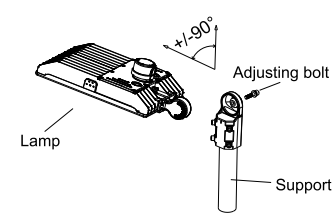

Figure 13
**1. ADJUSTABLE FITTER MOUNTING (AM)**
Step 1: Connect the wire correctly and put the wire into pole. Then fasten the locking bolts between slip fitter and the pole. (Figure 13)
Step 2: Loosen the fixing bolts and adjusting bolts, align the fixture to required angle. Tighten adjusting bolt and fixing bolts after the angle is confirmed. (Figure 13)
Notice: Adjustable angle is 0~+/-90° (Figure 13)